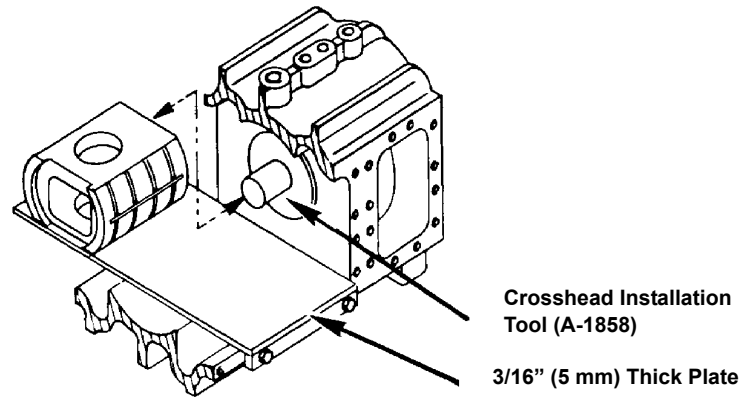

FIGURE 5-6: CROSSHEAD INSTALLATION
8. Install the Crosshead Installation/Removal Tool as shown in Figure 5-6:.
9. Push the crosshead onto the Crosshead Installation Tool (see Figure 5-6:) and rotate the crosshead 90 degrees.
10. Slide a 3/16 inch (5 mm) thick plate into the gap between the crosshead and the crosshead guide (as shown in Figure 5-6:)
1. Lay a 3/16 inch (5 mm) thick plate in the bottom of the crosshead guide and lay the crosshead on its side as shown in Figure 5-6: on Page 5-12. Lubricate crosshead and guide surfaces with oil.
2. Mount the Crosshead Installation Tool onto the crosshead guide diaphragm and lubricate tool bearing surfaces with oil. Refer to Figure 5-6: on page 5-12. Install the diaphragm with this tool mounted into the crosshead guide. Slide the crosshead onto the tool.